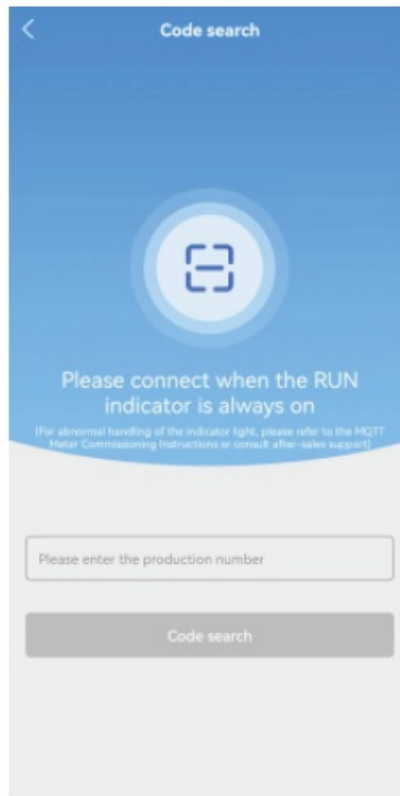

Fig 2
Step 3: Search for devices: As Fig 2